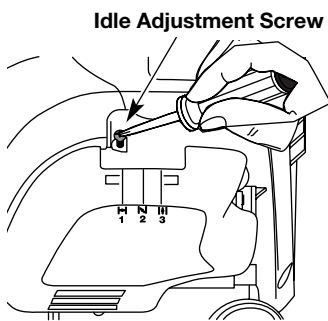

Fig. 50
The idle speed of the engine is adjustable. An idle adjustment screw is between the air filter cover and the engine starter housing (Fig. 50).
2. Release the throttle trigger and let the engine idle. If the engine stops, insert a small phillips in between the Air Filter Cover and the Engine Cover (Fig. 50). Turn the idle speed screw in, **clockwise**, 1/8 of a turn at a time (as needed) until the engine idles smoothly.